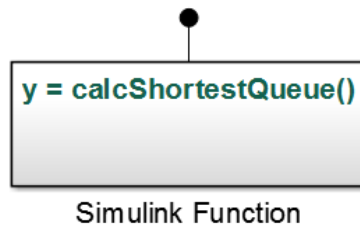

Figure 23: Edit the prototype function in the Simulink Function block
3. Edit the prototype function on the Simulink block from $y=f(u)$ to be $y = \text{calcShortestQueue}()$. Simply click on the green text to edit, and you should end up with a block that looks like Figure 23. You may have to resize the block for aesthetics.